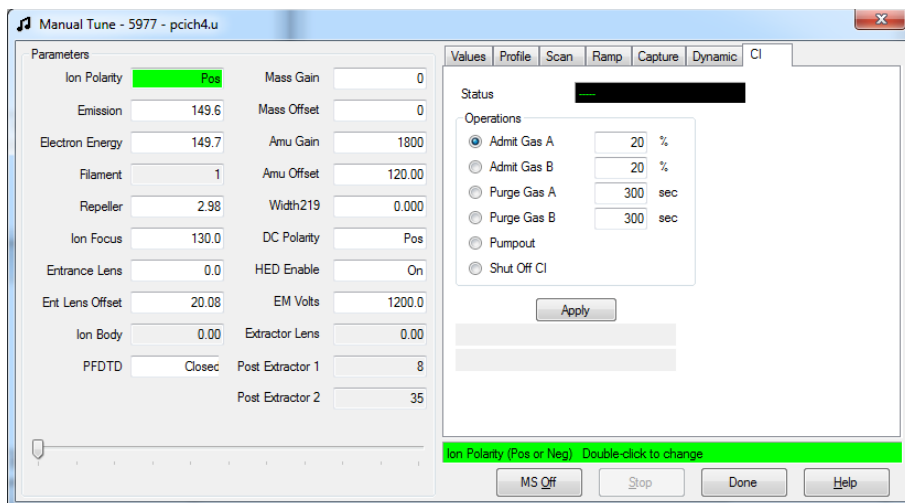

Figure 49 Manual tune CI tab
- 1 In the **Manual Tune** dialog, click the **CI** tab to access the parameter settings for controlling the CI gas flow. (See **Figure 49**.)